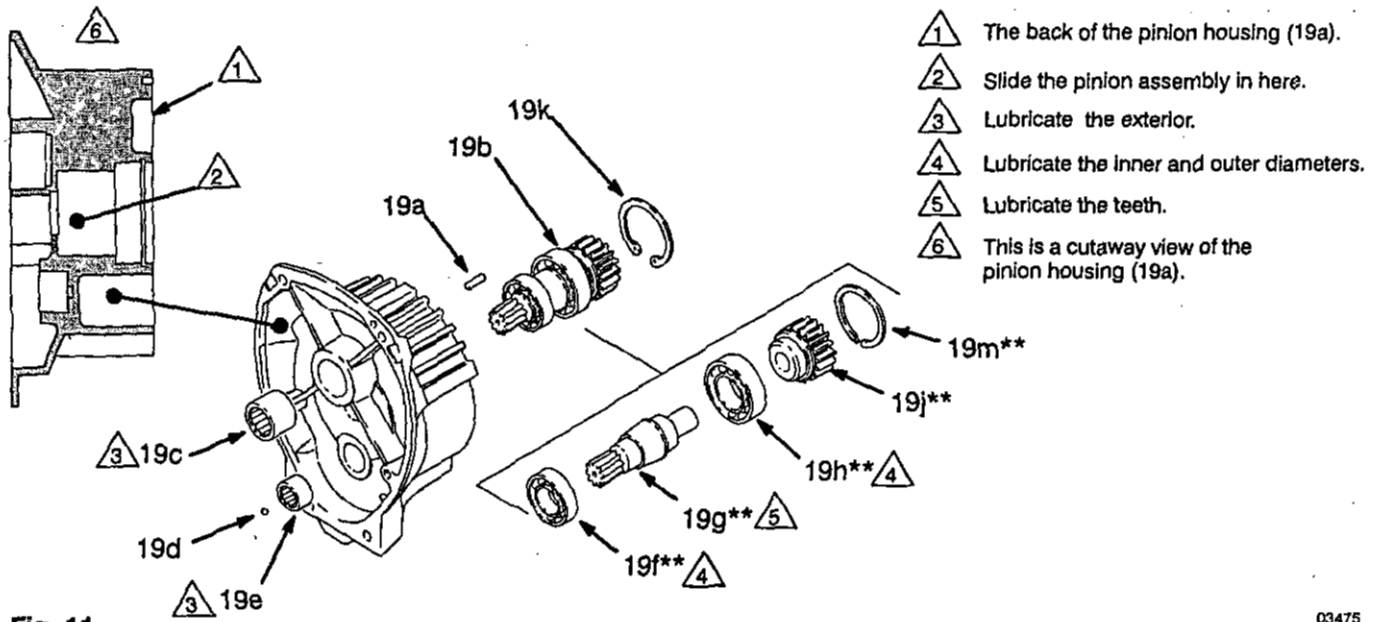

Fig. 11
1. Remove the two bottom screws (10) and lockwashers (11) first, then remove the two side screws (10) and lockwashers (11), and last remove the top screw (10) and lockwasher (11).
2. Pull the pinion housing (19) away from the clutch housing. The armature (4a) will come with it.
3. Pull the armature (4a) off the hub (19j) of the pinion housing. Also see Fig. 11.
NOTE: Refer to Fig. 11 except where noted.
5. Apply lubricant to the parts as shown in Fig. 11.